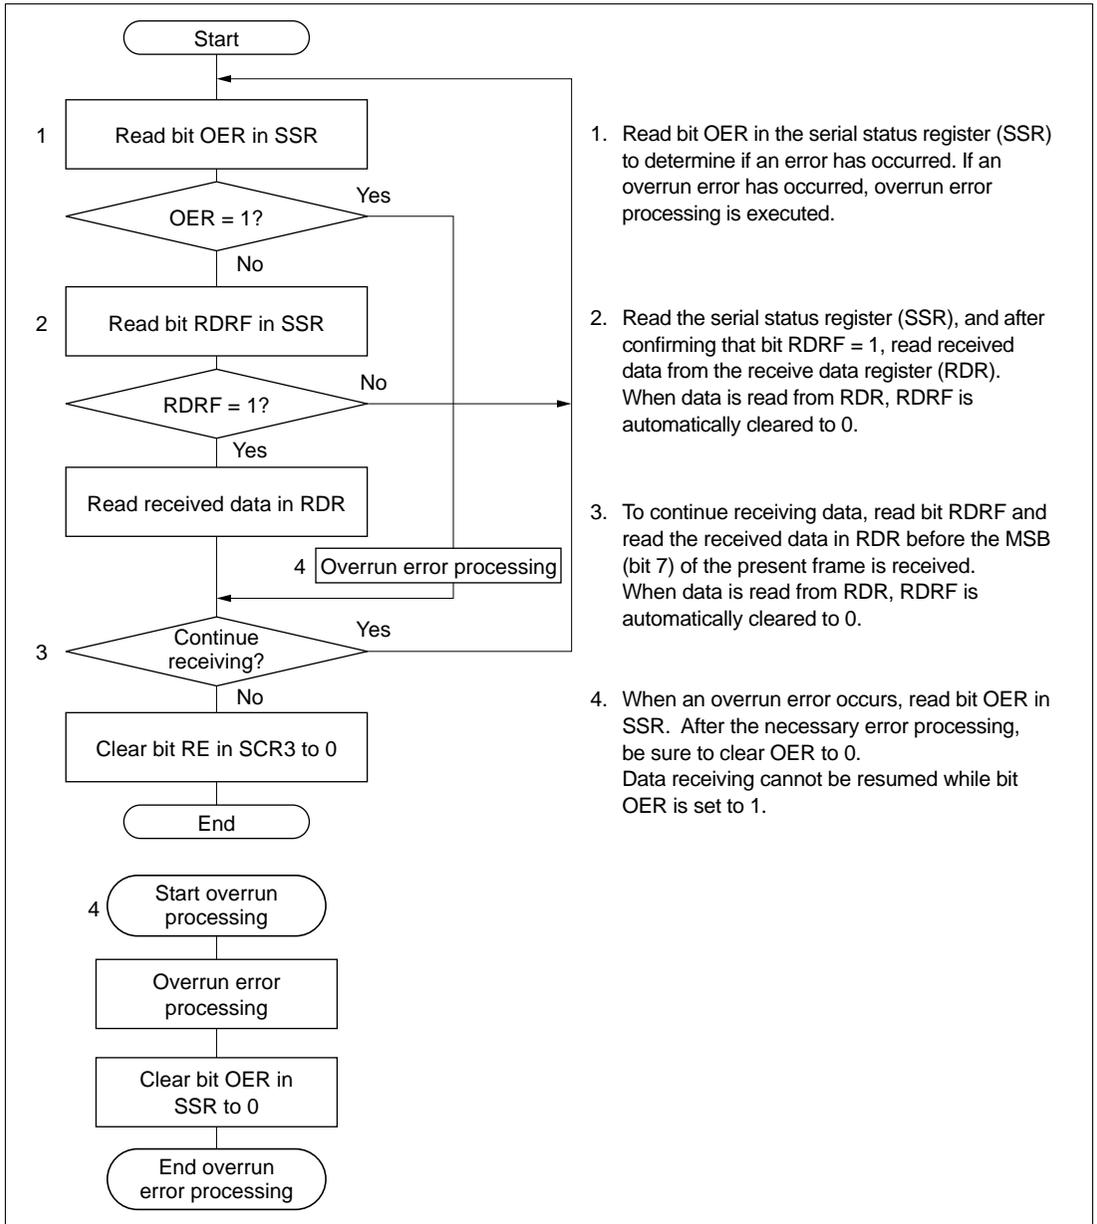

Figure 10.19 Typical Data Receiving Flow Chart in Synchronous Mode
Receiving: Figure 10.19 shows a typical flow chart for receiving data. After SCI3 initialization, follow the procedure below.
4. When an overrun error occurs, read bit OER in SSR. After the necessary error processing, be sure to clear OER to 0. Data transmission and reception cannot take place while bit OER is set to 1. See figure 10.19 for overrun error processing.